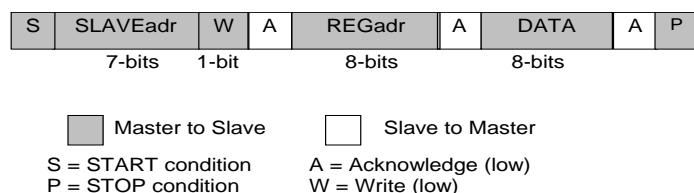
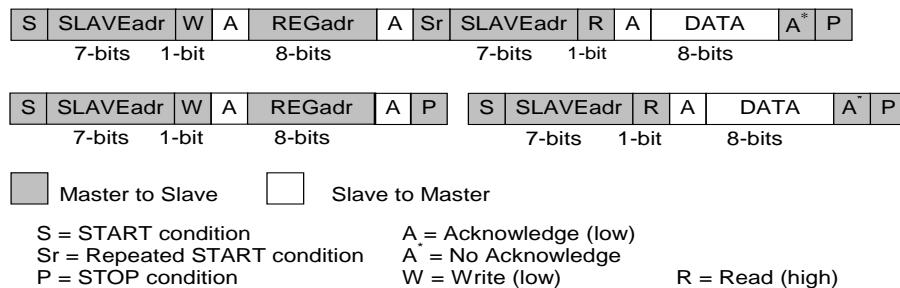

Figure 7: I²C Byte Write (SDA Line)
Figure 8: I²C Byte Read (SDA Line) Examples
The I²C bus is monitored for a valid slave address whenever the interface is enabled. It responds immediately when it receives its own slave address. The acknowledge is done by pulling the SDA line low during the following clock cycle (white blocks marked with A in Figure 7 and Figure 8).
The protocol for a register write from master to slave consists of a START condition, a slave address with read/write bit, and the eight-bit register address followed by eight bits of data, terminated by a STOP condition. DA9142 responds to all bytes with acknowledge (A), see Figure 7.
with a repeated START, or alternatively a second START, condition. After receiving the data, the host sends no acknowledge (A^*) and terminates the transmission with a STOP condition, see Figure 8.